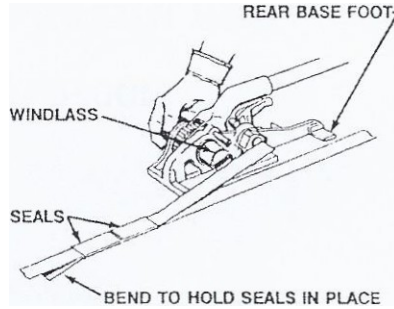

FIGURE 1.
1. Thread the proper number of heavy duty seals on both straps as shown in Figure 1. Contact your ENCORE Representative for recommendation. Bend lower strap downward to hold seals in place. Bend top strap upward to permit insertion in windlass of tensioner. With tensioning handle all the way down and locking the gripper in open position, adjust windlass so that the slot is in line with angle of top strap.